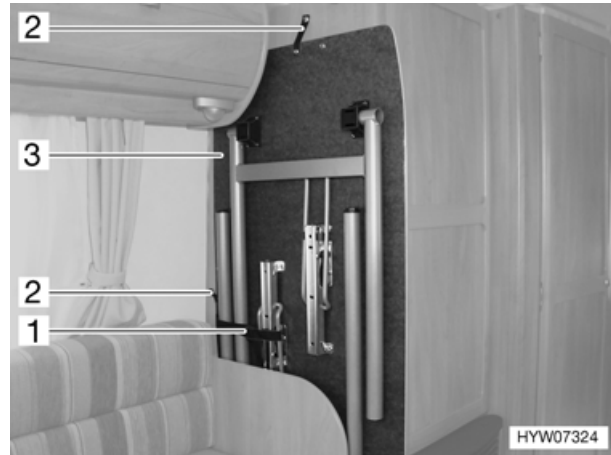

Fig. 25 Folding table in the holder
- Undo the snap fasteners of the securing straps (Fig. 25,2).
- Open retaining belt (Fig. 25,1).
- Carefully remove the folding table (Fig. 25,3) from the holder.
- Push the folding table with the legs backwards in the holder between seating group and cabinet (Fig. 25).
- Secure the folding table (Fig. 25,3) with the retaining belt (Fig. 25,1) and the securing straps (Fig. 25,2).